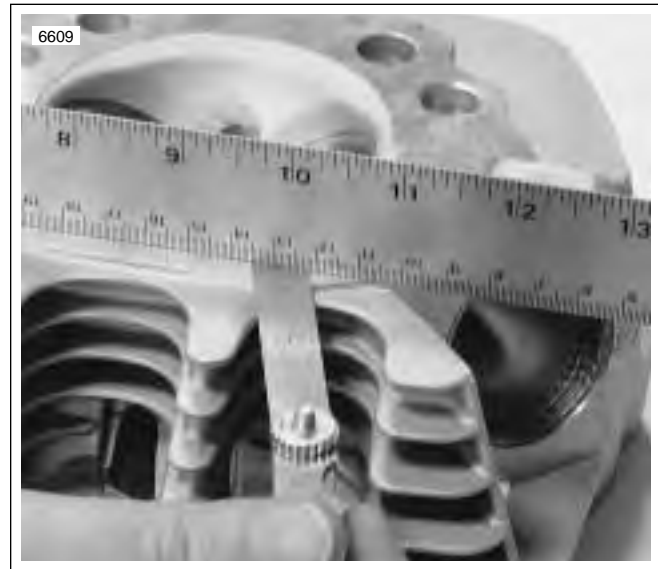

Figure 3-63. Checking Gasket Surface
4. See Figure 3-63. Check head gasket surface on head for flatness. Machine or replace any head which exceeds SERVICE WEAR LIMIT of 0.006 in. (0.152 mm).